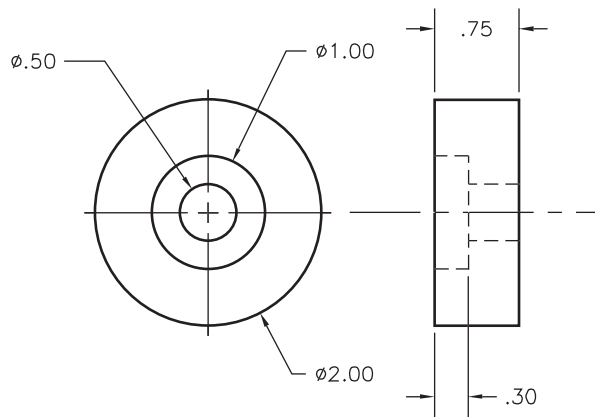

Fig. 19-12
1. Your company is trying some new bushings for the swings in the child's playground set it manufactures. Draw the front view and full section of the bushing shown in Fig. 19-12. Hatch the section as appropriate. Save the drawing as **bushing.dwg**.